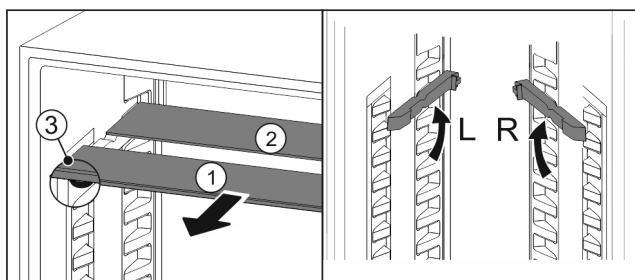

Fig. 110
- ▶ Pull the glass panels out Fig. 110 (1) from the front, one at a time.
- ▶ The glass panel Fig. 110 (1) and trim strip are at the front.
- ▶ The stops Fig. 110 (3) point down.